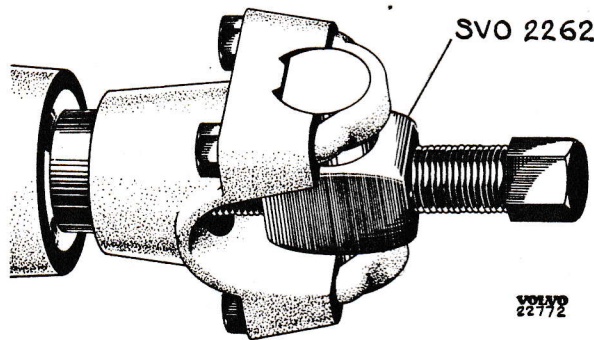
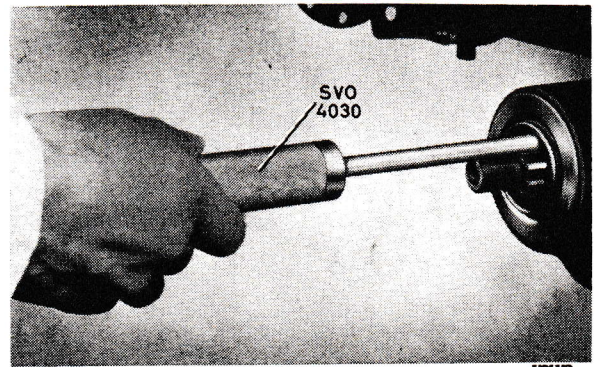

Fig. 5. Removing the flange.
Fig. 6. Removing the oil seal.
2. Remove the flange nuts by using wrench SVO 2409 as rapport. Pull off the flange with tool SVO 2261 for PV 544 and SVO 2262 for P 1200, see Fig. 5. Remove the old oil seal with SVO 4030, Fig. 6.
8. Remove the nut for the flange (22). Use tool SVO 2409 as rapport. Pull off the flange with puller SVO 2262, see Fig. 5. Press off the pinion (28).
9. Remove the oil seal (25) by using SVO 4030, see Fig. 6. Then remove the slinger (24) and the forward pinion bearing (27).